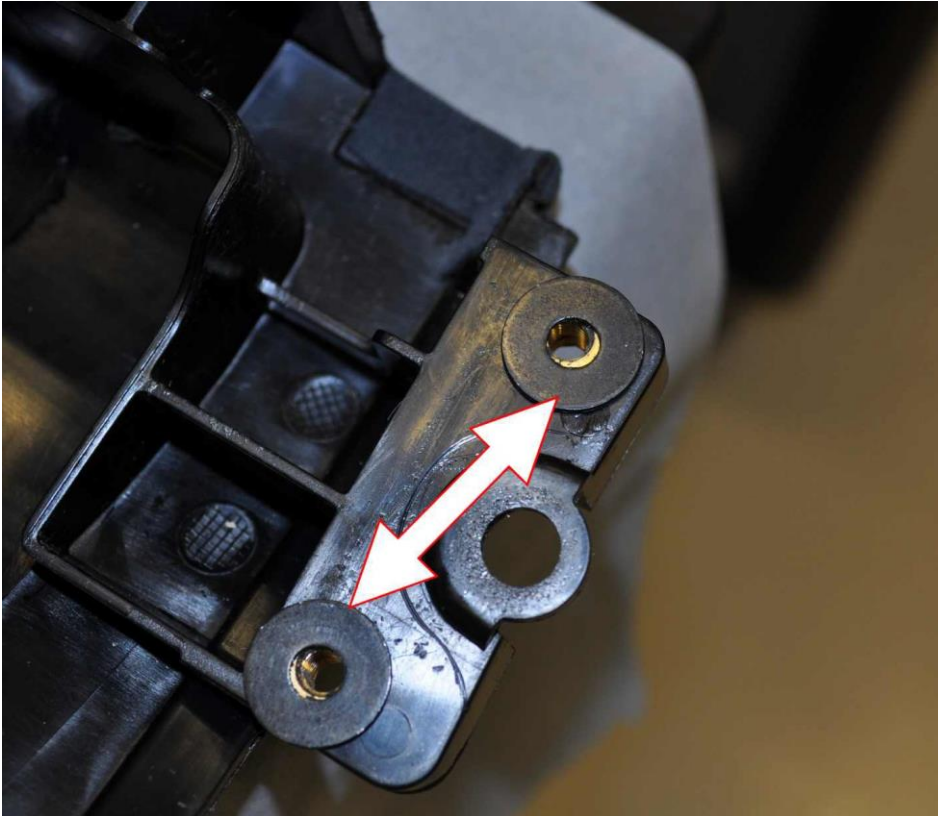

Figure 7
6) Retrieve the washers which are fitted behind the assembly (Figure 7) NOTE: Discard the washers